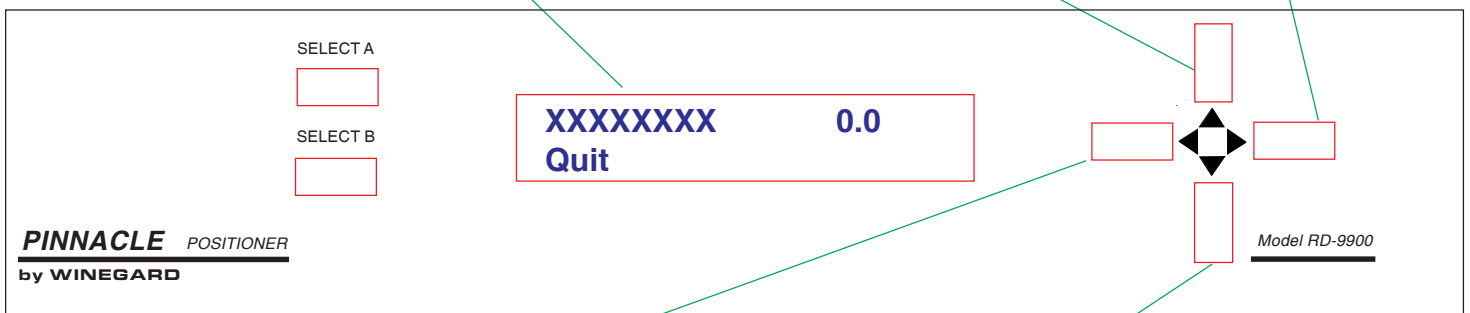

Figure 36
4. Use the **UP/DOWN/LEFT/RIGHT** arrow keys to enter the satellite name. The satellite name cannot be longer than eight (8) characters. See Figure 36.